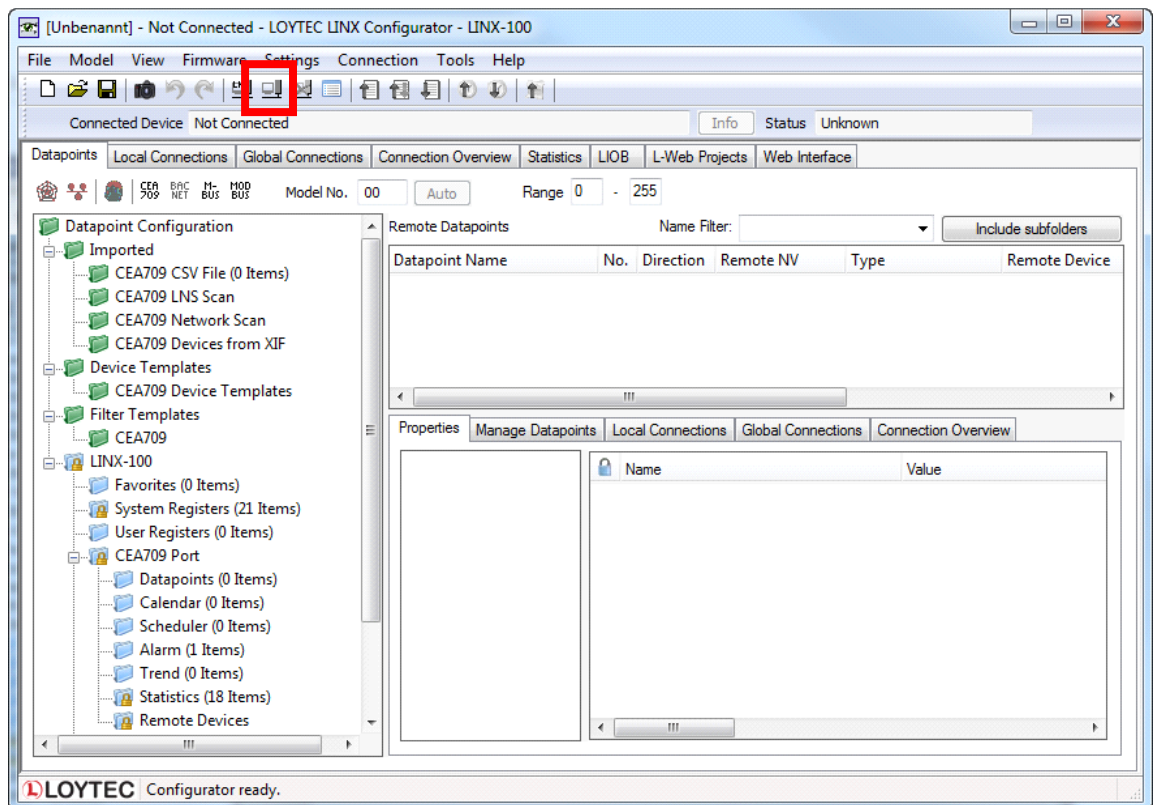

Figure 31: L-INX Configurator main screen.
1. Start the L-INX Configurator software by selecting Windows **Start** → **Programs** → **LOYTEC LINX Configurator** → **LOYTEC LINX Configurator**. The application starts up and displays the data point manager screen as shown in Figure 31.
2. When the device is online, connect to the device by clicking on the **Connect to device** speed button as indicated by the red rectangle in Figure 31.